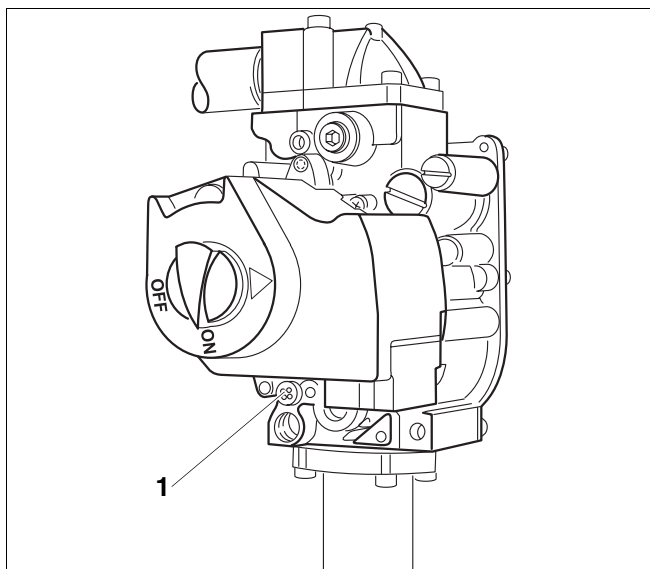

Fig. 41 Gas valve GC124 SP
The adjustment screw is located behind a safety screw on the gas valve (→ Fig. 41, page 46).
4. Remove the safety screw on the adjustment screw for the igniter (→ Fig. 41). Turn the inner adjustment screw clockwise to reduce the size of the ignition flame, and counterclockwise to increase it.
5. After completed adjustment replace the safety screw (→ Fig. 41).